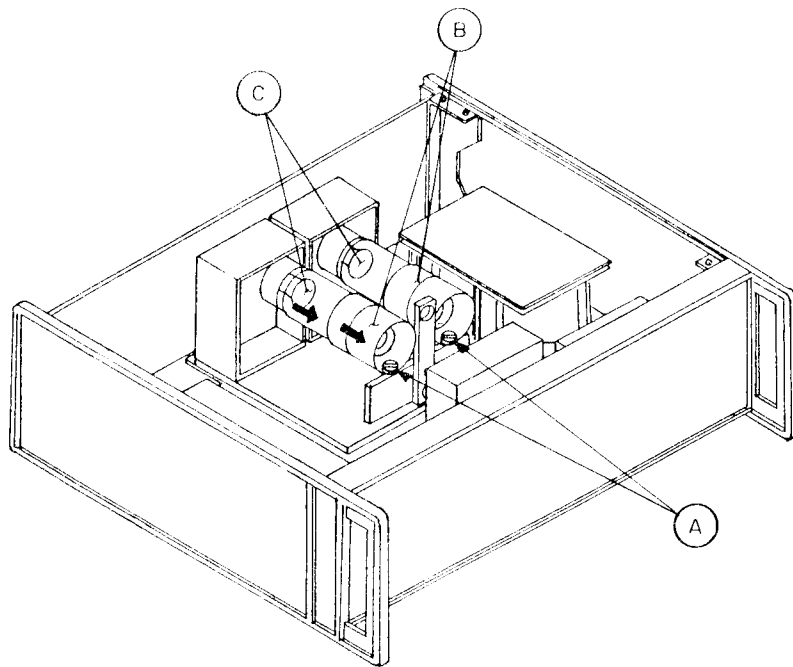

Figure 93. Parts Replacement
After approximately 5,000 hours of use, estimated every two years, the output regulators (tubes) should be replaced (see Figure 93).
- 1) Remove the screws as indicated by "A" in Figure 93.
- 2) Remove the sleeves from over the tubes as indicated by "B" in Figure 93.
- 3) Remove the tubes as indicated by "C" in Figure 93.
- 5) Reinstall the sleeves (B) over the new tubes.
- 6) Reinstall the screws (C).